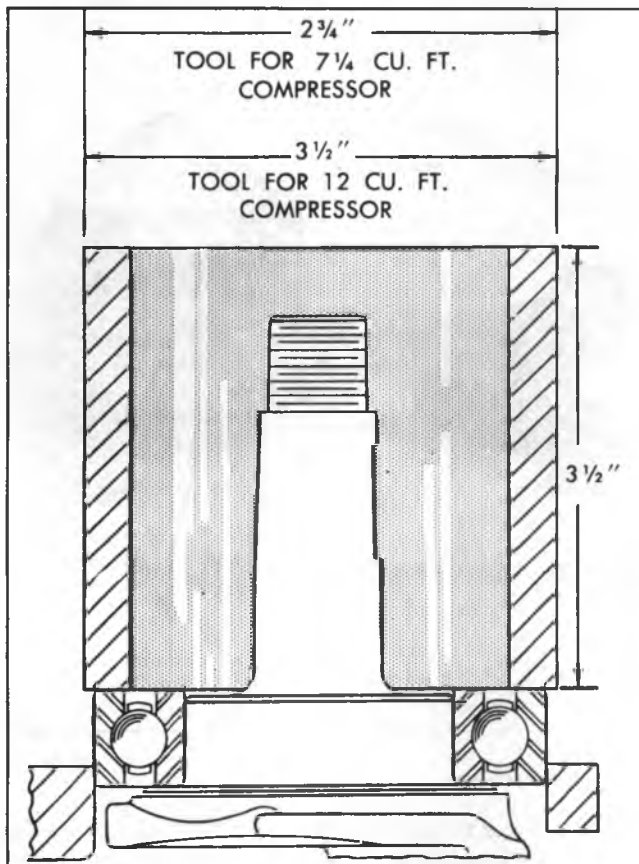

Fig. 16G--Pressing Main Bearing Using Arbor Press Tool
6. Insert crankshaft and front ball bearing, as an assembly, through crankcase bearing bore and press front ball bearing into crankcase front bore by using an arbor press. Make sure that a suitable tool is used to press bearing and crankshaft assembly into crankcase. The tool, which can be improvised locally (using a section of tubing), must press on the outer race of bearing to insure no shifting of ball bearings or damage to the bearing assembly. Refer to figure 16G for tool dimensions.